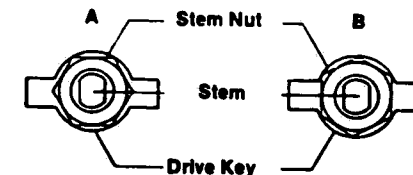

Figure 7-7. HEX/DRIVE KEY RELATIONSHIP.
7. Check the orientation of the stem nut to the drive key. In order to achieve the desired orientation loosen the nut until the hex/drive key relationship corresponds to either A or B of Figure 7-7. This should not require more than one-twelfth (1/12) turn of the nut.